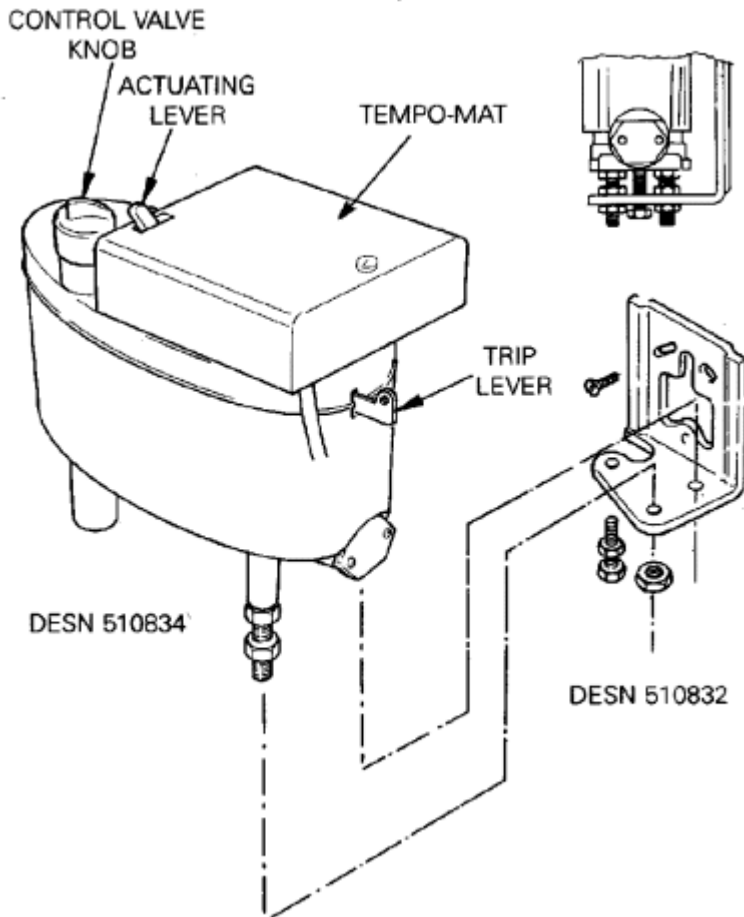

Fig.8
1. Fit and lightly secure oil control valve support bracket to cooker LH side panel. See Fig.8.